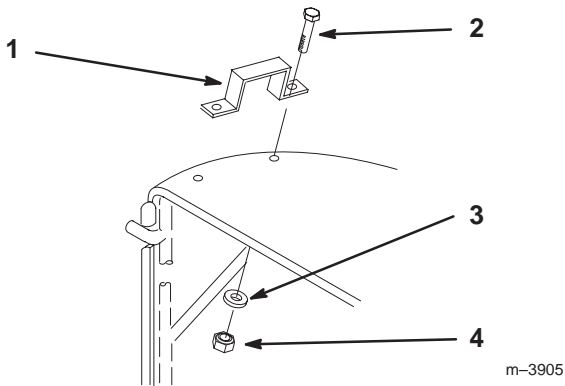

Figure 5
2. Arrange bag around frame and secure with (2) handles (Fig.5).
3. Locate handles over slots in frame. Push (2) 1/4-20 x 1” (25 mm) bolts, through fabric from the outside, and secure with (2) 1/4” (6 mm) washers and (2) 1/4-20 locknuts (Fig.5).